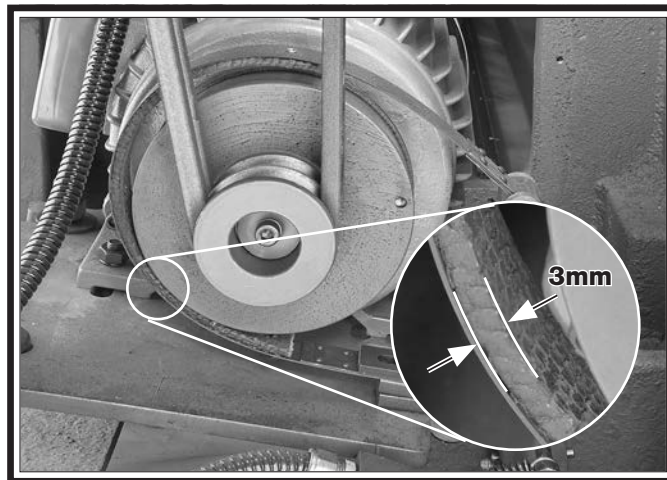

Figure 124. Minimum brake belt thickness.
4. Measure the remaining brake band lining at the thinnest point, which is usually at the 8 o'clock position, as shown in **Figure 124**.